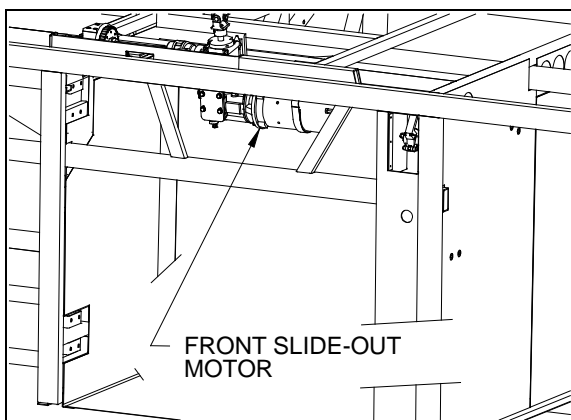
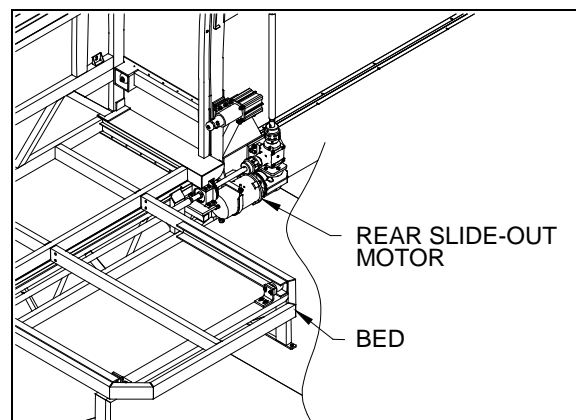

FIGURE 14 : FRONT SLIDE-OUT MOTOR
FIGURE 15 : REAR SLIDE-OUT MOTOR INSIDE COACH
5. To move the slide-out, use a ½" hexagonal socket on the back of the slide-out motor (refer to figure 14 and figure 15 for the motor locations).